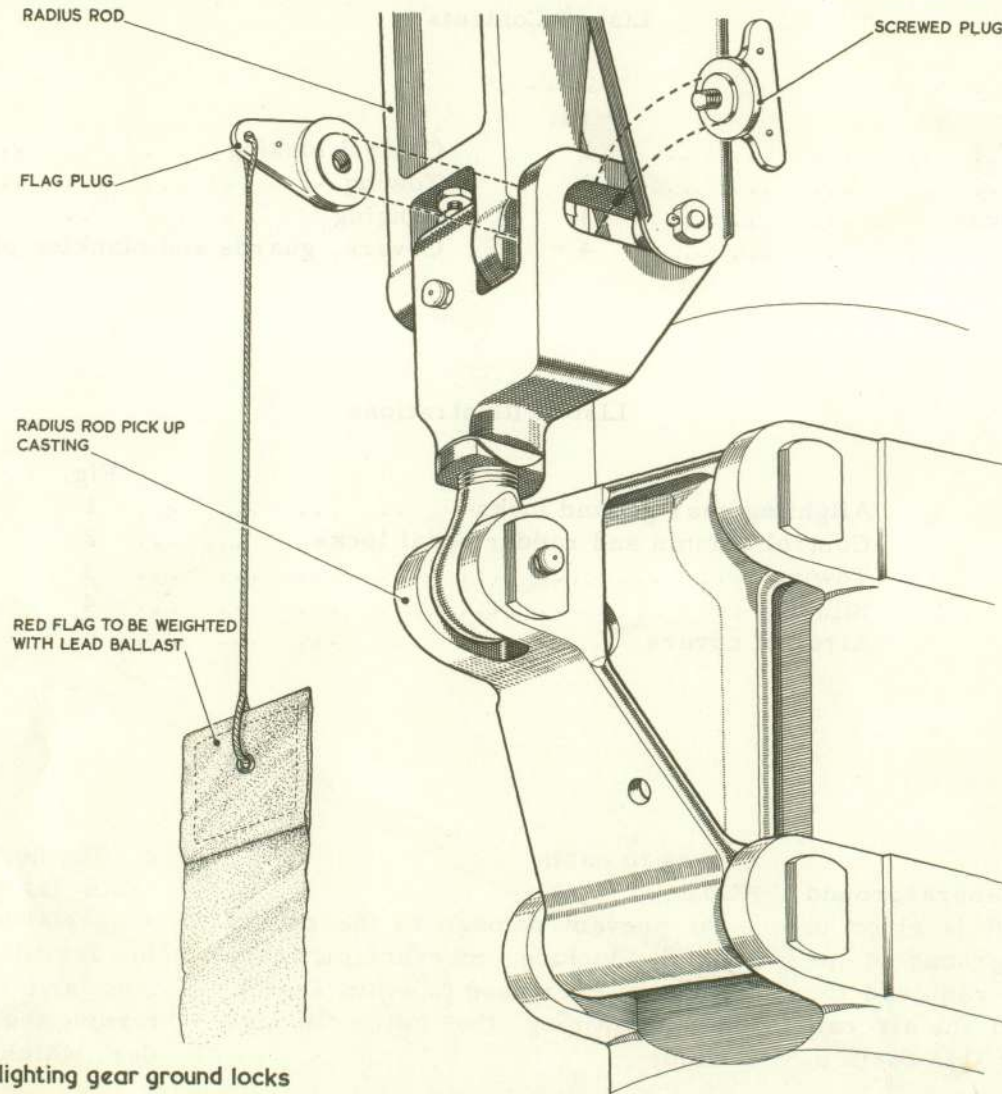

Fig. 1 Alighting gear ground locks
3. A safety lock, in the form of a plug and a retaining screw (Fig. 1), must be inserted in the radius rods of the main undercarriage whenever personnel are working beneath the aircraft. A red warning flag is attached to each plug as a reminder
8. ◀A list of covers and blanking plates is given in Table 1 in Sect. 2, Chap. 4. Air intake guards are illustrated in Chap. 2, Fig. 1. The plates ▶